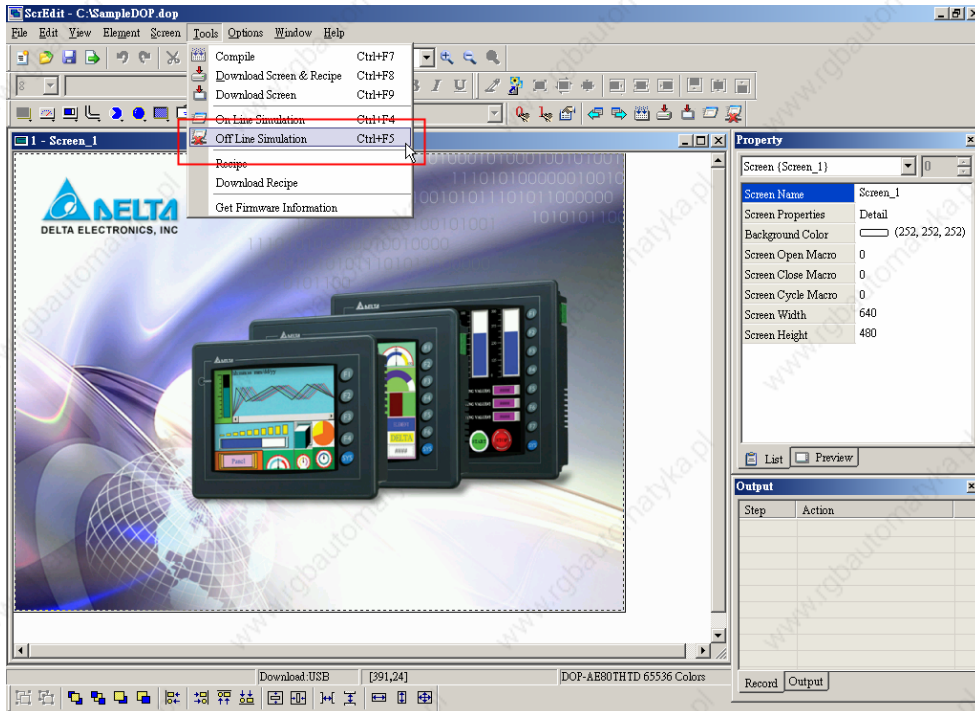
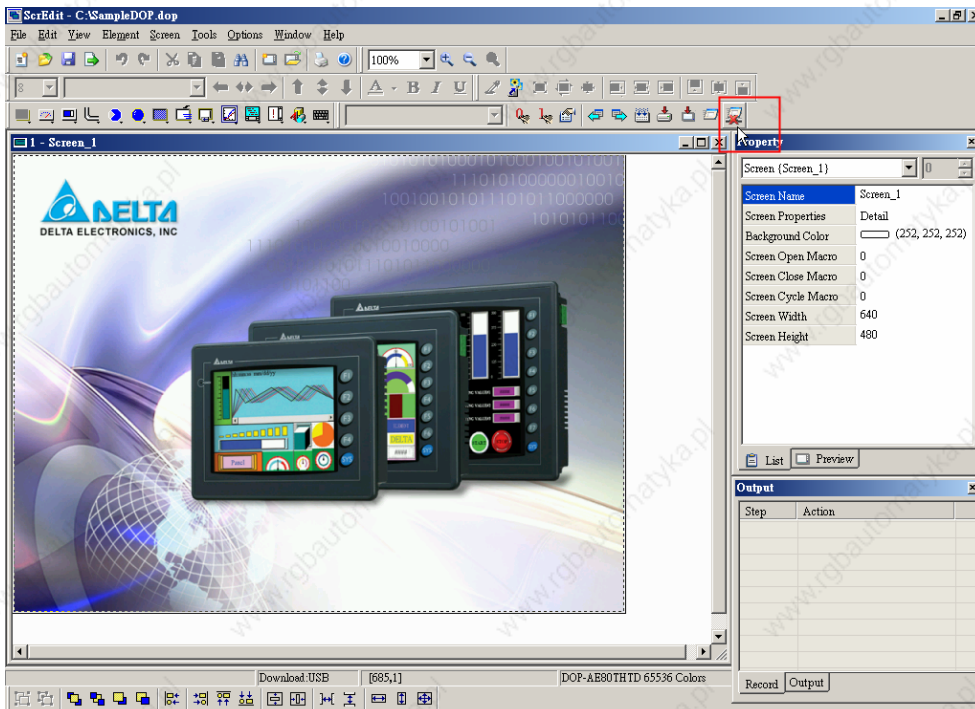

Fig. 2.8.16 Choosing Off Line Simulation command from menu bar
Fig. 2.8.17 Choosing Off Line Simulation icon from toolbar
**Line Simulation** (Fig. 2.8.16) or clicking icon  (Fig. 2.8.17) or using keyboard shortcuts by pressing **Ctrl + F5**.